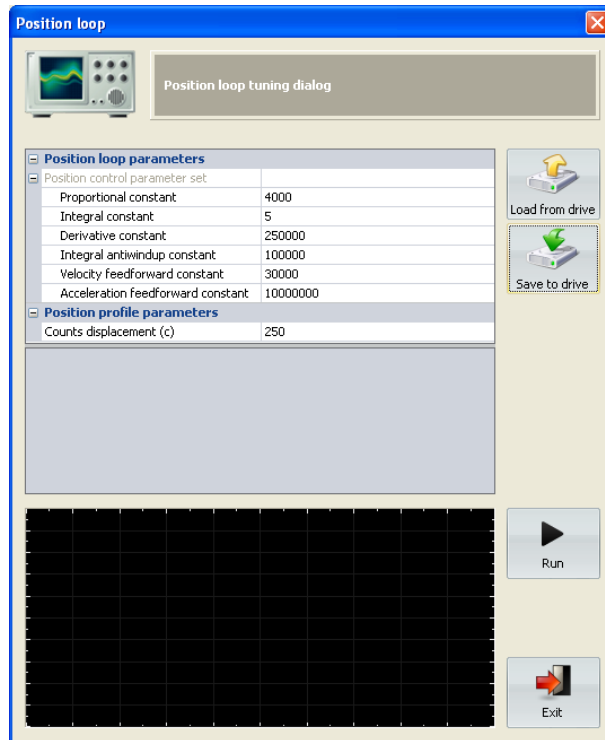

Figure 10: Position loop
- 4. Position loop tuning:** When pressing at the “P loop” button of the main window a dialog box with the parameters of the position loop will appear (see Figure 10). This dialog has a scope that helps to tune the parameters properly. Once the parameters are modified they could be saved into the drive (using save to drive button) and run an execution. The system will apply a step of position and the result will be presented in the scope.